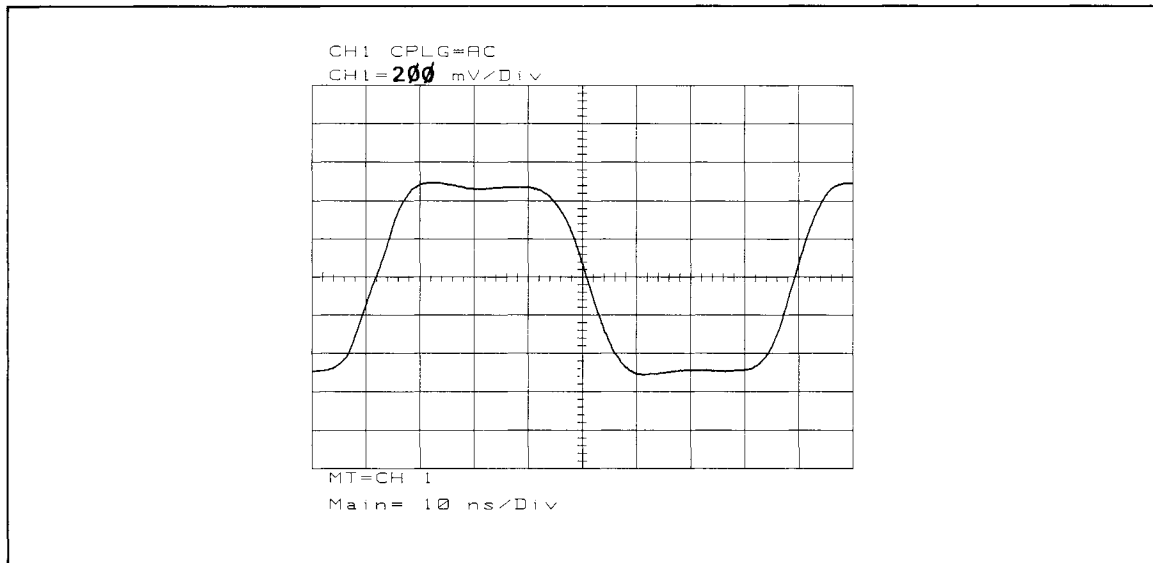

Figure 3-17. Square Wave Shape
- Place board back into card nest. Turn instrument on. Sequentially press RECALL, 0 to restore HP 3326A test setup. Using the oscilloscope, check to see if the peak of the waveform caused by the positive overshoot has a slightly greater magnitude than the rest of the top portion of the waveform (Figure 3-17).
- If the waveform matches Figure 3-17, go to step 6. If not, turn instrument off and remove board. Readjust C103 until the waveform is correct while the board is in the card nest.